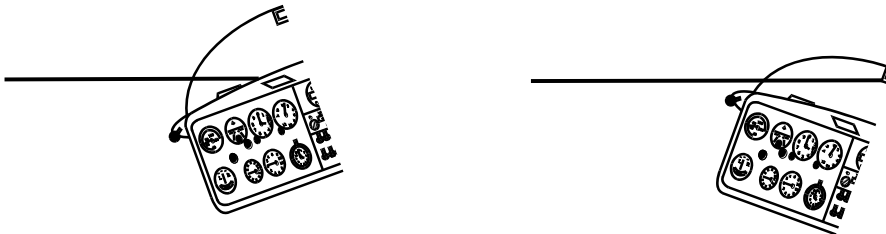

Fig 7. Turning attitudes - Left and Right.
(1) Use co-ordinated controls to return to the straight and level attitude.
(2) As soon as this attitude is achieved, look out to check the area which had been masked by the raised wing during the turn.
(3) Resume the normal scan for straight and level flight.
4. **Turning in the opposite direction.** In a side by side training aircraft such as the Vigilant, the view ahead is noticeably different when turning left compared to turning right, however in both instances the distance of the horizon above the speaker box will be similar. (See fig 7). You will be taught to recognise and achieve a medium turn in both directions.